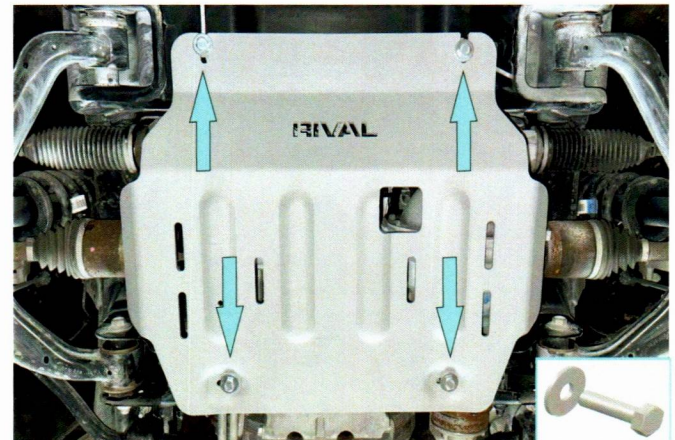

Fig. 4
4.1 If the RIVAL radiator skid plate installed: loosen the rear skid plate bolts, slide the engine skid plate and fix it using bolts M10x35 and penny washers 10 (item B, C) as shown in fig.4.
4.2 If not, put the front side of RIVAL skid plate (item 1) on preinstalled bolts and fix the rear side using bolts M10x35 and penny washers 10 (item B, C) as shown in fig.4.